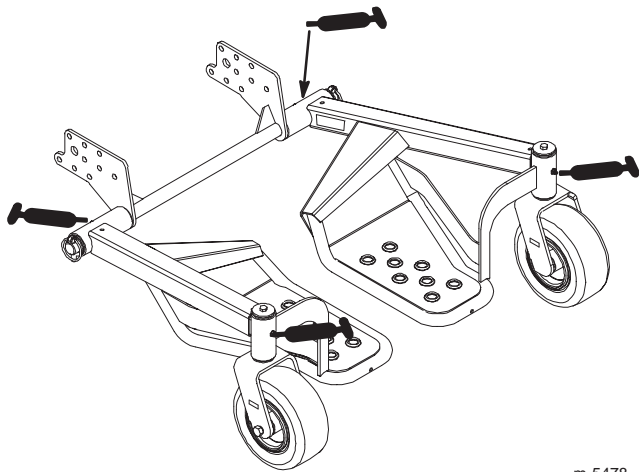

Figure 11
2. Connect a grease gun to each fitting (Fig 11).